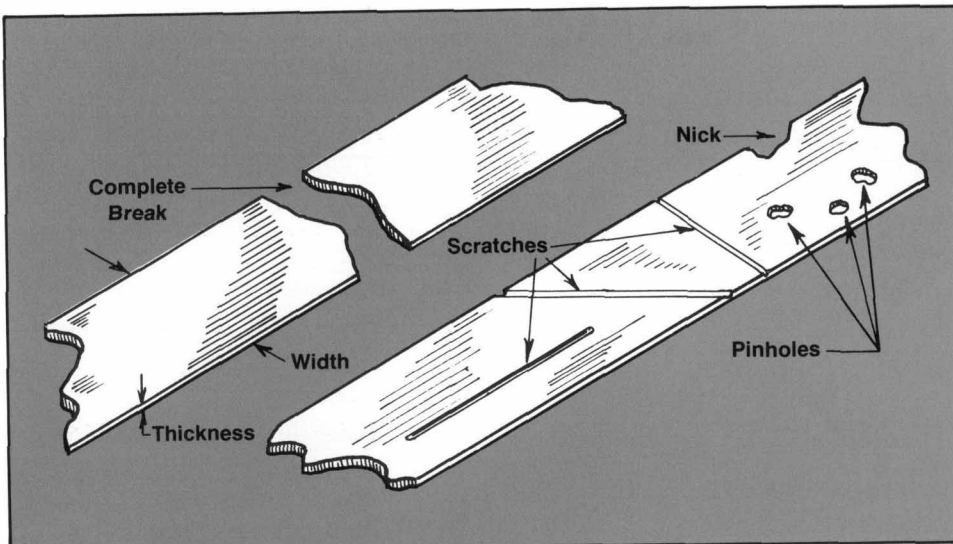

Figure 26. Example of trace damage that can be repaired.
- One-third or more of the trace is missing because of a nick, hole, burn, etc. (see Figure 26).